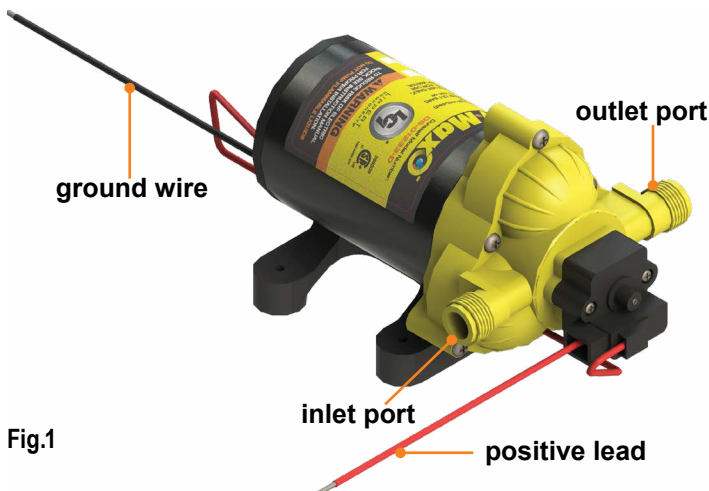

Fig.1
1. Install in-line screen (**Fig.2A**) on the inlet side of the pump (**Fig.1**) to prevent debris from entering the pump.
2. Using the supplied ½" swivel connectors (**Fig.2B**) connect flexible, high-pressure hoses to both the outlet port of the pump and the inlet port of the in-line screen (**Fig.1**).
2. Install a 15 amp (ignition protected) switch on the positive lead (red wire) (**Fig.1**). The switch should be mounted in an easily accessible location.